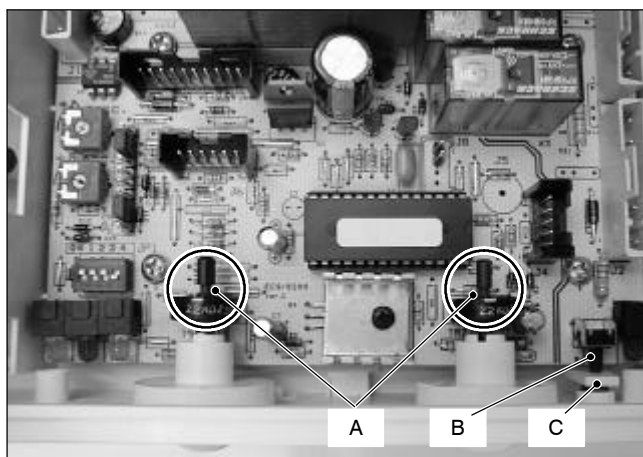

Fig. 40
- 8 Insert the spindles in the control panel knobs until the notch A (Fig. 40) reaches the potentiometer edge. It is not necessary to force them in the knob.
- 9 While tightening the screws that fix the Electronic control p.c.b. on the control panel, keep the p.c.b. towards the control panel fascia making sure of the contact between the boiler reset button B and the tab C (Fig. 40).